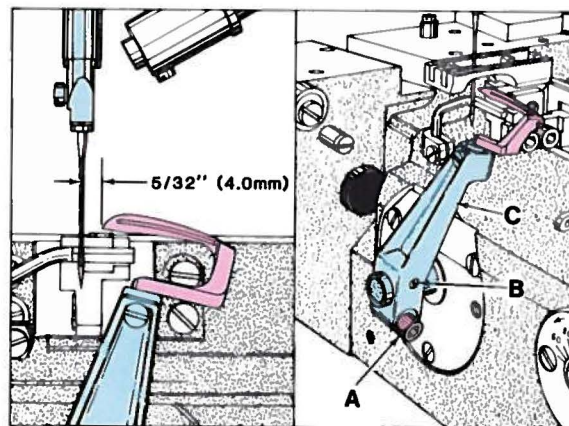

Fig. 7
Insert a new needle, type and size specified. With looper positioned at extreme right end of travel, distance from centerline of needle to point of looper should be  $5/32$ " (4.0mm). Adjustment can be made by loosening screw (A, Fig. 7) and turn screw (B) clockwise to increase looper gauge or counterclockwise to decrease. Push looper holder (C) to the left while making this adjustment and locking with screw (A).